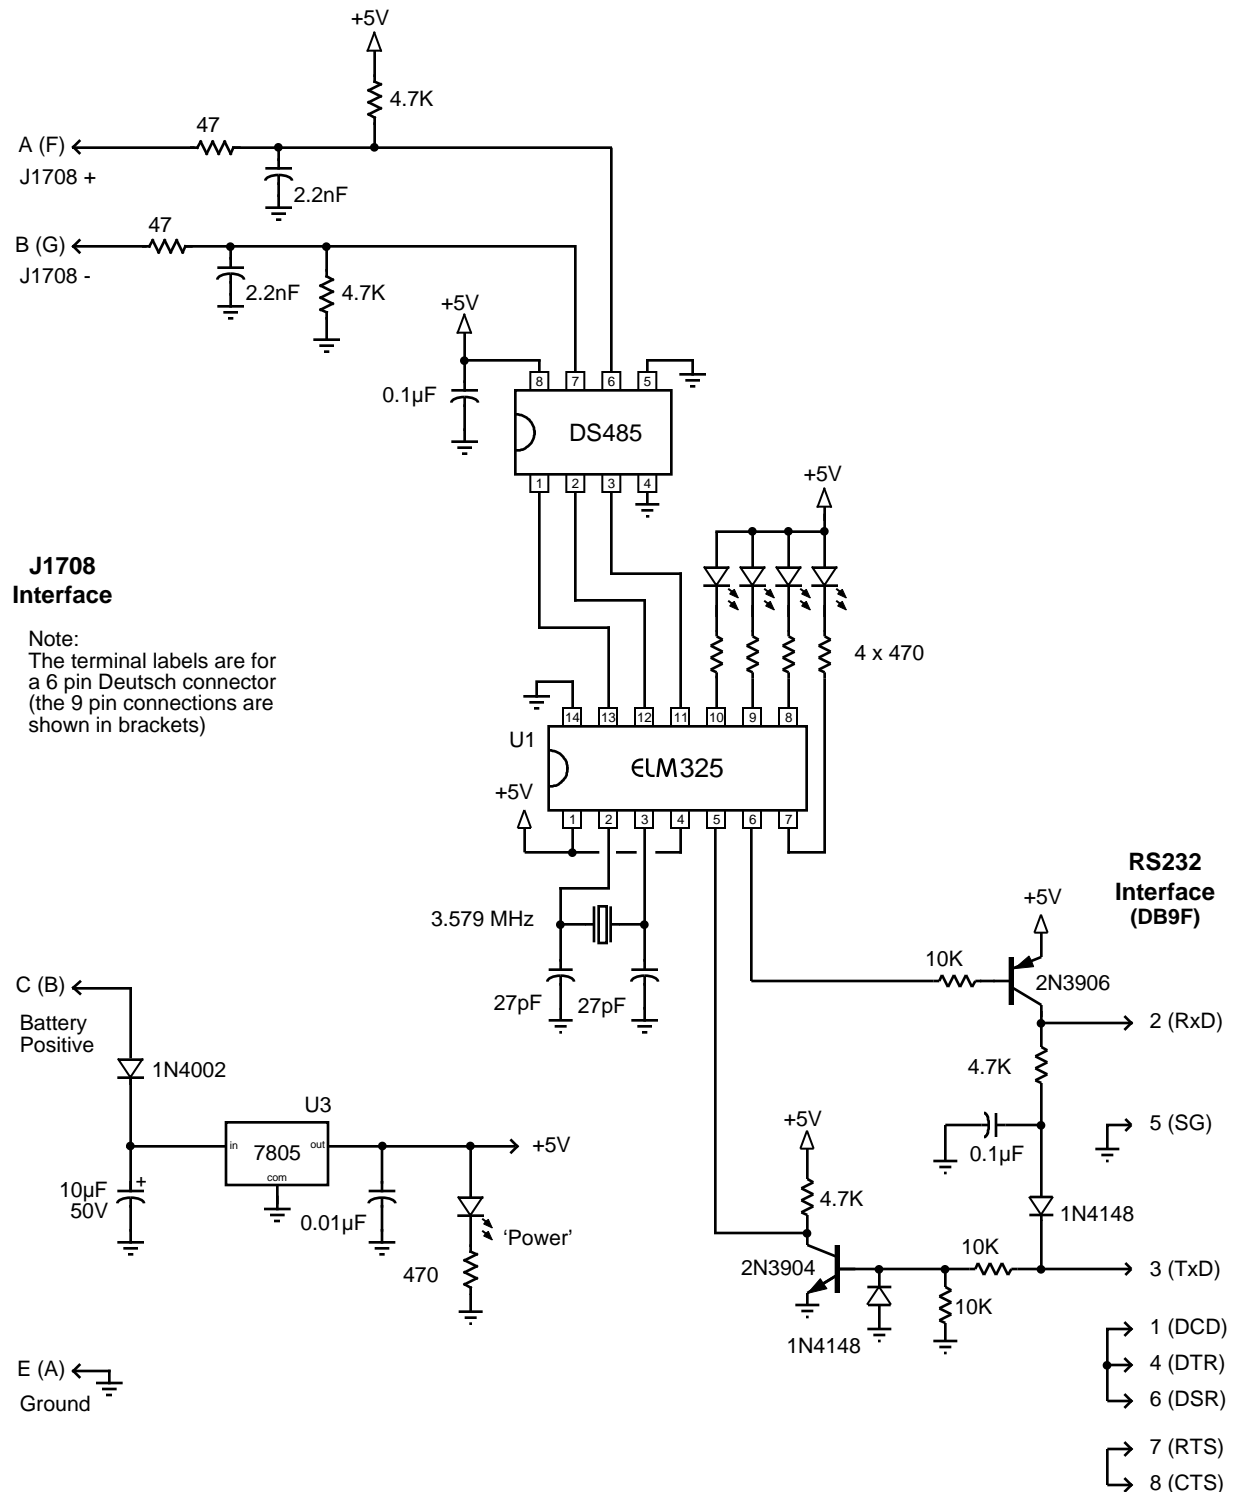

Figure 9. An RS232 Serial Interface
The final circuit that we offer is that of Figure 9. It is identical to that in Figure 7, except that we show a discrete RS232 interface connected to the ELM325's pins 5 and 6. This circuit is more than adequate for this application, and is relatively low in cost. (It is also the same as the one that we suggest with our ELM327 and ELM329 integrated circuits.) Of course, if you want to reduce the amount of wiring, you may wish to consider products like the MAX232 family from Maxim Integrated Products (www.maxim-ic.com), and similar devices.
- Figure 9 (RS232), 26